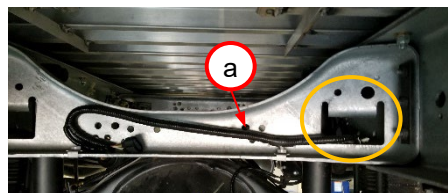

Figure 17.
10. Route fuel system chassis harness/OEM harness bundle (a) along through chassis frame crossmember opening (circled). *Figure 17*